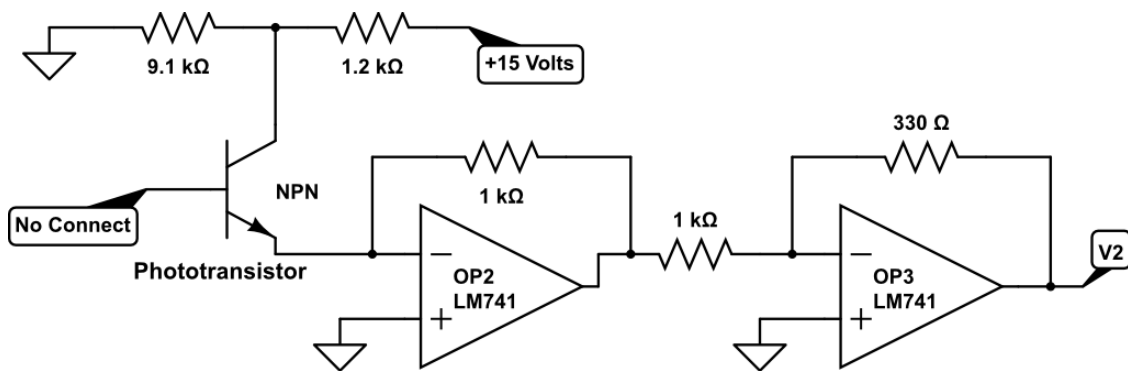
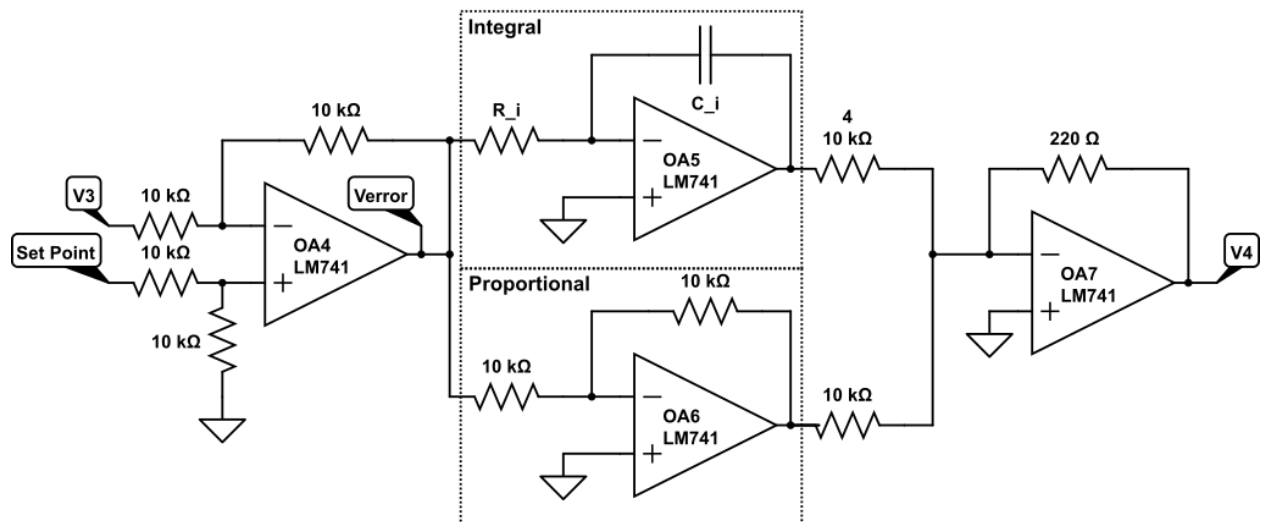

Figure 7: Phototransistor Usage
Figure 8: Error Handling Section
- Connect V2 (from figure 7) to V3 (from figure 8). The feedback loop is now complete.
- Construct the proportional component from figure 8 and connect it as shown.